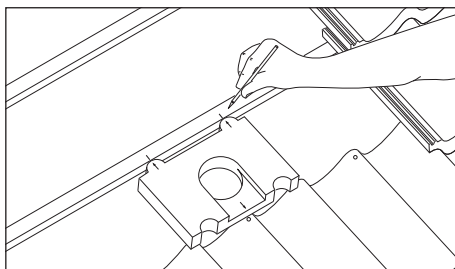

Fig. 1 – Mark position
- 1 Locate vent tile clear of rafters and place special polystyrene end spacer marked 'Template' flat onto underlay at desired position (Fig. 1).